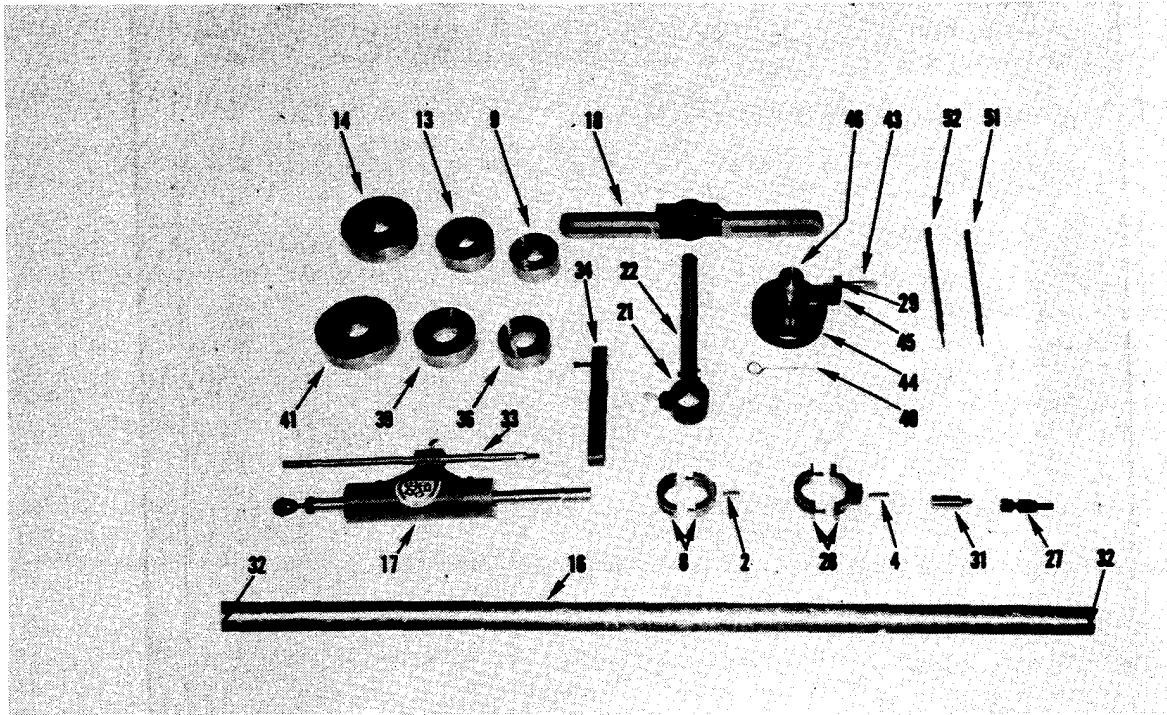

Fig. 1-20, (ST-1177). Exploded view of ST-1177 Boring
4. Oil centering ring bores and boring bar, install boring bar (ST-1177-16), (Fig. 1-20) through centering rings rotating slowly. Bar should spin free. Slide bar out one end until appropriate checking ring can be installed in bar. Oil outside diameter of checking ring.